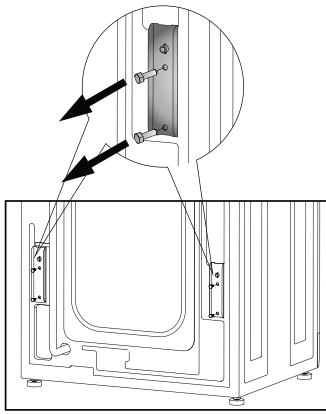
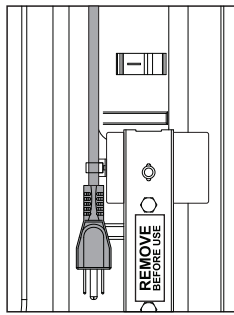
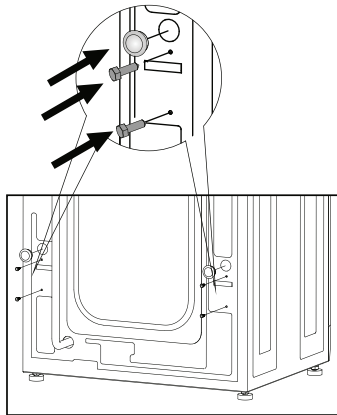

Fig.1
Fig.2
Fig.4
**Important:** The inside of the appliance consists of a free floating drum that is affixed with shipping rods at the back of the cabinet during transport (Fig.1). The power cord can be accessed by removing the shipping rods (Fig. 2 & 3). Close the holes left open by the rods with the caps provided (Fig. 4). The screws also need to be reinstalled (Fig. 4).